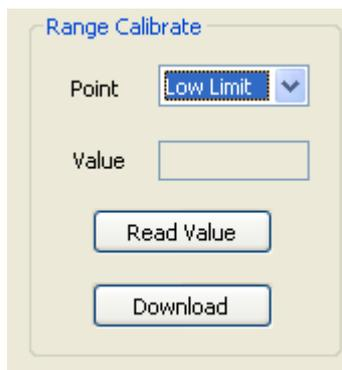

Figure 5.5 Range Calibration-calibration Range Lower Limit
- ① The transmitter adds the standard range lower limit pressure, select the calibration point "range lower limit", as shown in Figure 5.5, click "Get the current value", display the calibration data in the "correct value", click "download", then the actual pressure value is the lower range lower pressure value, and the current output is 4 mA.